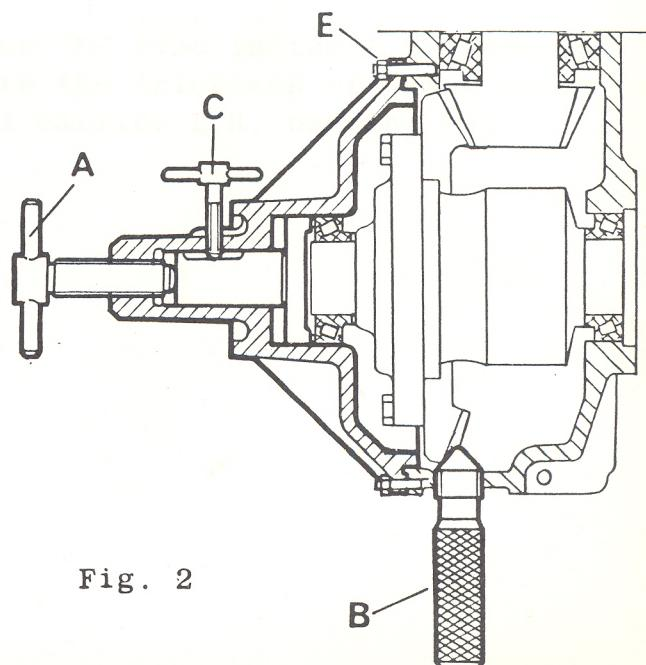

Fig. 2
- Fit the tool as applicable in place of the L.H. axle shaft housing. To prevent misreadings, tighten firmly all nuts "E" (Figure 2).
- Adjust screw "A" so as to obtain clearance and preload as specified. While taking clearance readings, lock the ring gear by means of setscrew "B" acting through the drain plug (Figure 2).